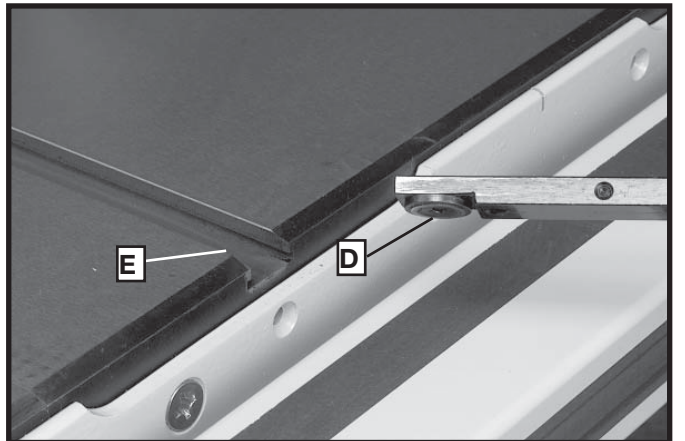

Fig. 64
Insert washer (D) Fig. 64 into the miter gage slot (E) and slide miter gauge onto saw table.
The miter gauge is equipped with a washer (D) Fig. 64 which fits into the T-Slot groove (E) in the table. This allows the miter gauge to be pulled off the front edge of the table without falling. This allows for a longer cut-off capacity in front of the blade.